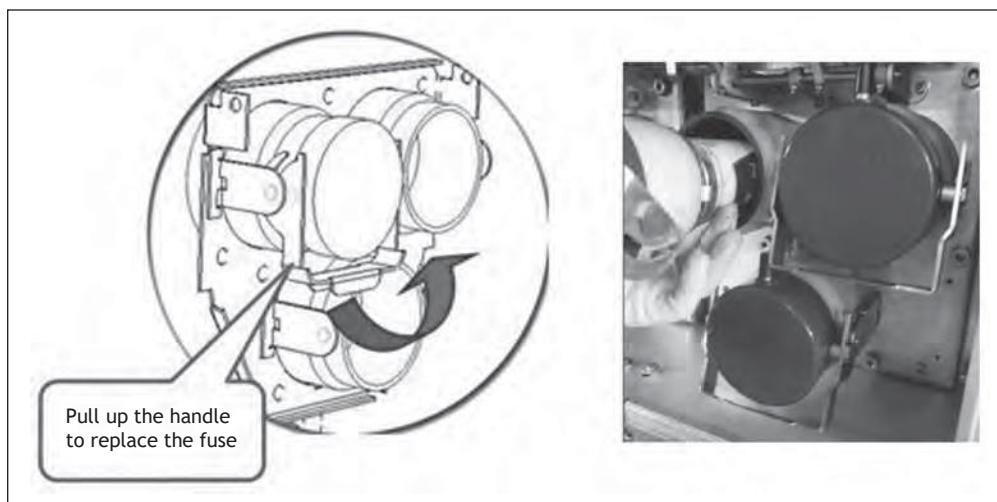

Figure 16 Fuse cylinder operation example
- As shown in **Figure 16**, move the handle from the vertical place to horizontal place, maintain and withdraw the locking plug horizontally. Handle with care, to avoid any damage to the fuse cylinder;
- c. As shown in **Figure 16**, move the handle from the vertical position to horizontal position, and maintain and withdraw the locking plug and the fuse horizontally. Handle with care, to avoid any damage to the fuse cylinder;